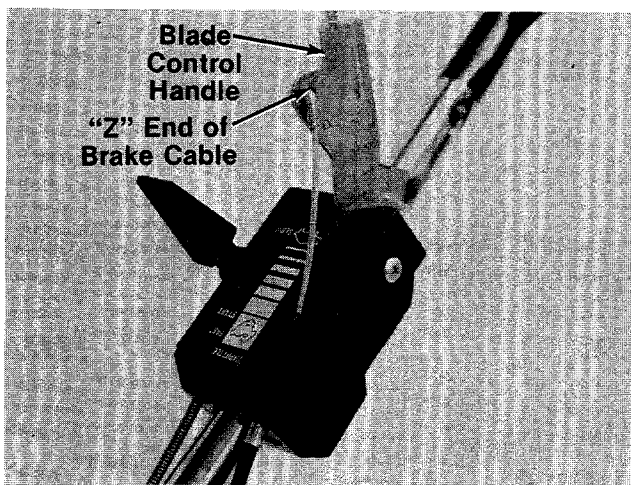

FIGURE 6.
8. Snap the end of the cable into the control housing. Hook the "Z" end of the brake cable into blade control handle. See figure 6.